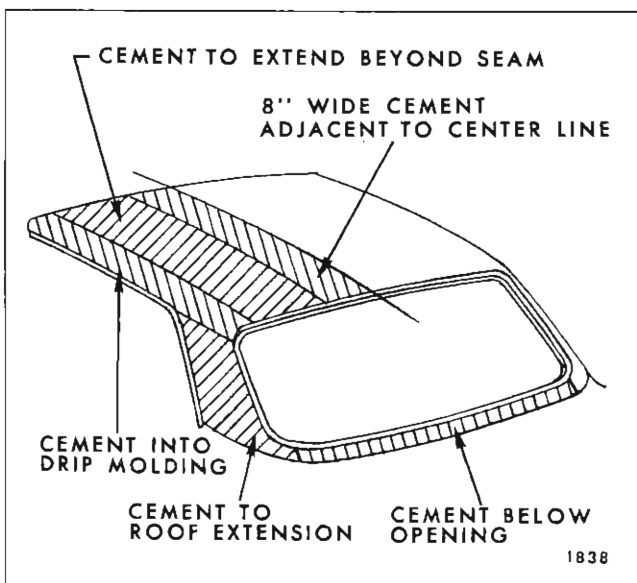

Fig. 2J4—Cementing Fabric Roof Cover
- j. At windshield and back window openings cement cover into opening. Apply extra bead of cement to each side of dielectric seam between fabric cover and roof panel at windshield and back window openings. (View "A & B", Fig. 2J3).
- l. Cement fabric cover to rear compartment front and shelf below back window opening. Be certain dielectric seams are straight. (See View "C", Fig. 2J3).